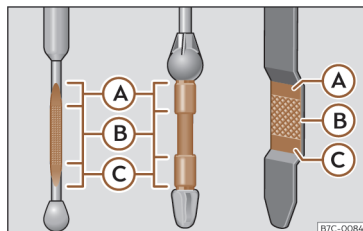

Fig. 231 Engine oil dipstick.
- Then pull it out again and check the oil level >>> Fig. 231. Top up with engine oil if necessary.
- When the oil level reaches at least zone >>> **Fig. 231 Ⓑ**, carefully screw on the engine oil filler cap >>> ⓪.